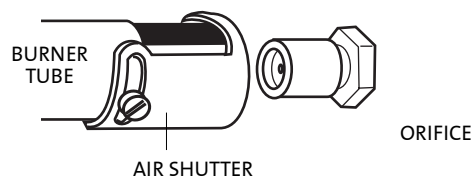

Figure 16.
2. Remove the stove Top Plate (3).
4. Release the Glass Clips (7) at the top of the firebox. Carefully lift the glass panel up and out.
5. Remove the Log Set (8) using care not to scratch or damage logs.
6. Lift out the Front Log Support/Screen (21) and Air Divider (46).
7. **LIFT OUT THE BURNER TUBE (10):** NOTE: There are no screws securing the Burner Tube to the floor of the firebox.
8. Change the Main Burner Orifice (33). Using a 1/2" open ended wrench or deep-well socket remove the burner orifice and replace with the appropriate orifice supplied in the kit.
9. Adjust the Air Shutter on the Burner Tube (10) to allow for the proper mixing of air and gas. See fig. 16.